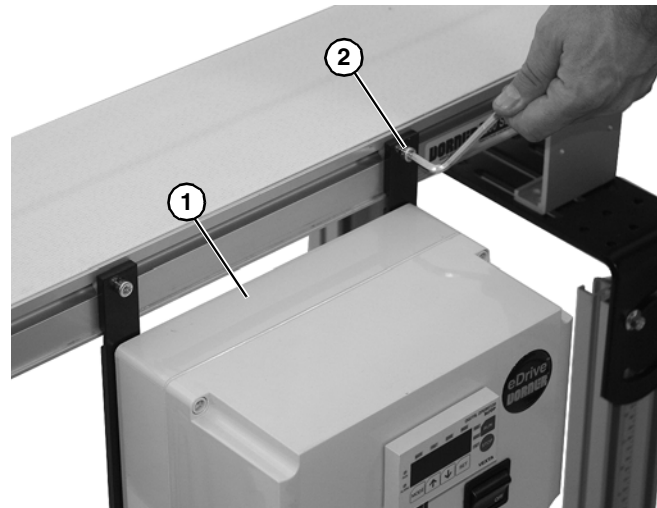

Figure 4
2. Attach controller (**Figure 4, item 1**) to conveyor with screws (**Figure 4, item 2**).